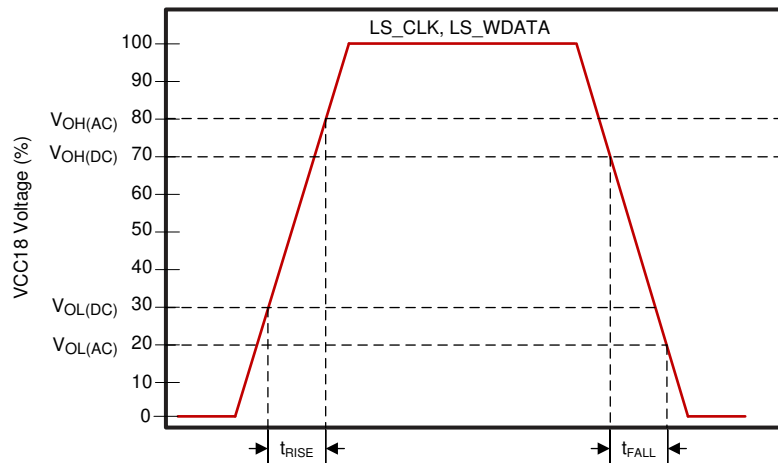
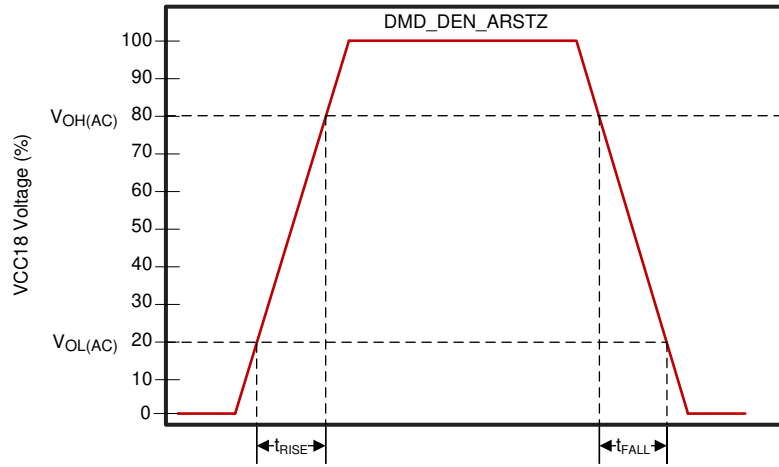

Figure 6-3. LS_CLK and LS_WDATA Slew Rate
图 6-4. DMD_DEN_ARSTZ Slew Rate
- See Figure 6-3 for DMD_LS_CLK, and DMD_LS_WDATA rise and fall times. See Figure 6-4 for DMD_DEN_ARSTZ rise and fall times.